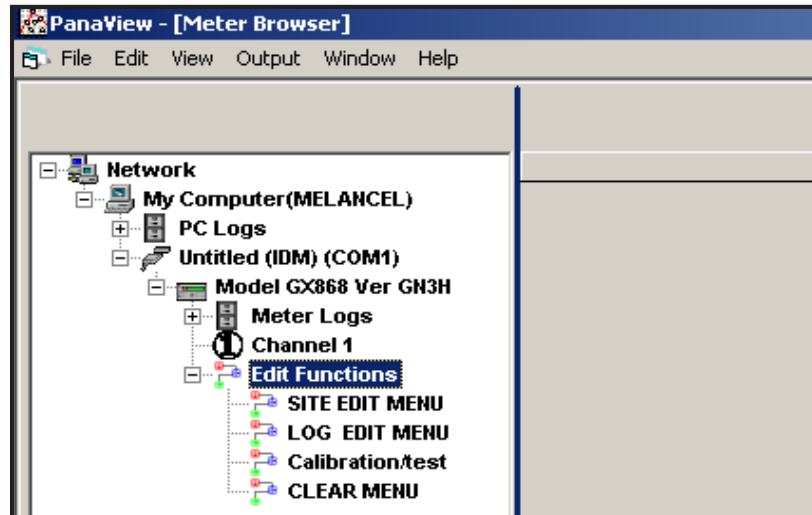

Figure 36: Meter Tree with *Edit Functions* Option
4. From the meter tree, expand the *Edit Functions* option. The window now appears similar to Figure 36, with a list of available menus. The menus listed are those available on the meter.